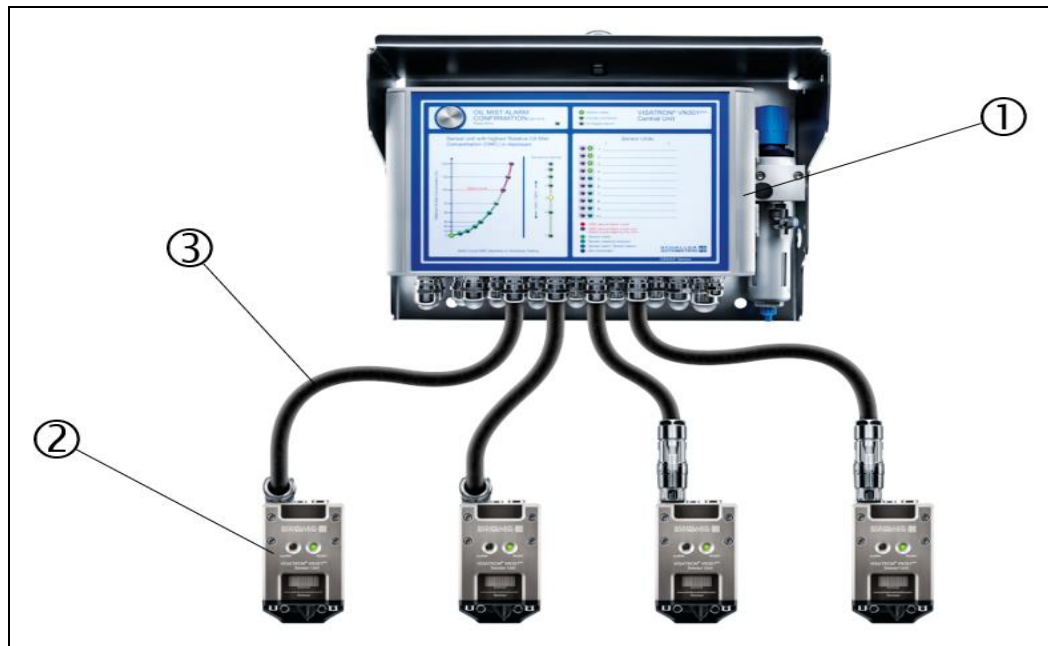

Fig.: 10 : Component overview, VISATRON® VN301^{plus}
The central part of the oil mist detection system, as shown in Figures 10 and 11, is the sensor unit (2), which includes an optical measuring track under the end cover, and LEDS to display important information for the user under normal operating conditions. The central unit (1) is attached to the engine wall via a protective cover to protect it from vibration.
The oil mist detection system uses the *Venturi principle* to draw the oil mist atmosphere out of the crankcase. Detection uses decentralised measurement, i.e. a sensor unit is mounted at a defined position on each cylinder station. Monitoring is implemented via an optical measuring track in the housing of the sensor unit. The measurement data then reach the central unit via a hybrid cable (3) and are analysed by the central unit (1), as shown in Figures 10 and 11.